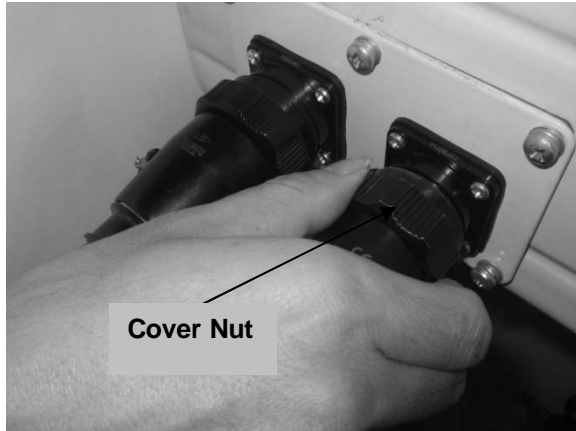

Figure 4
4. Tighten the two cover nuts with fingers (see Figure 4).